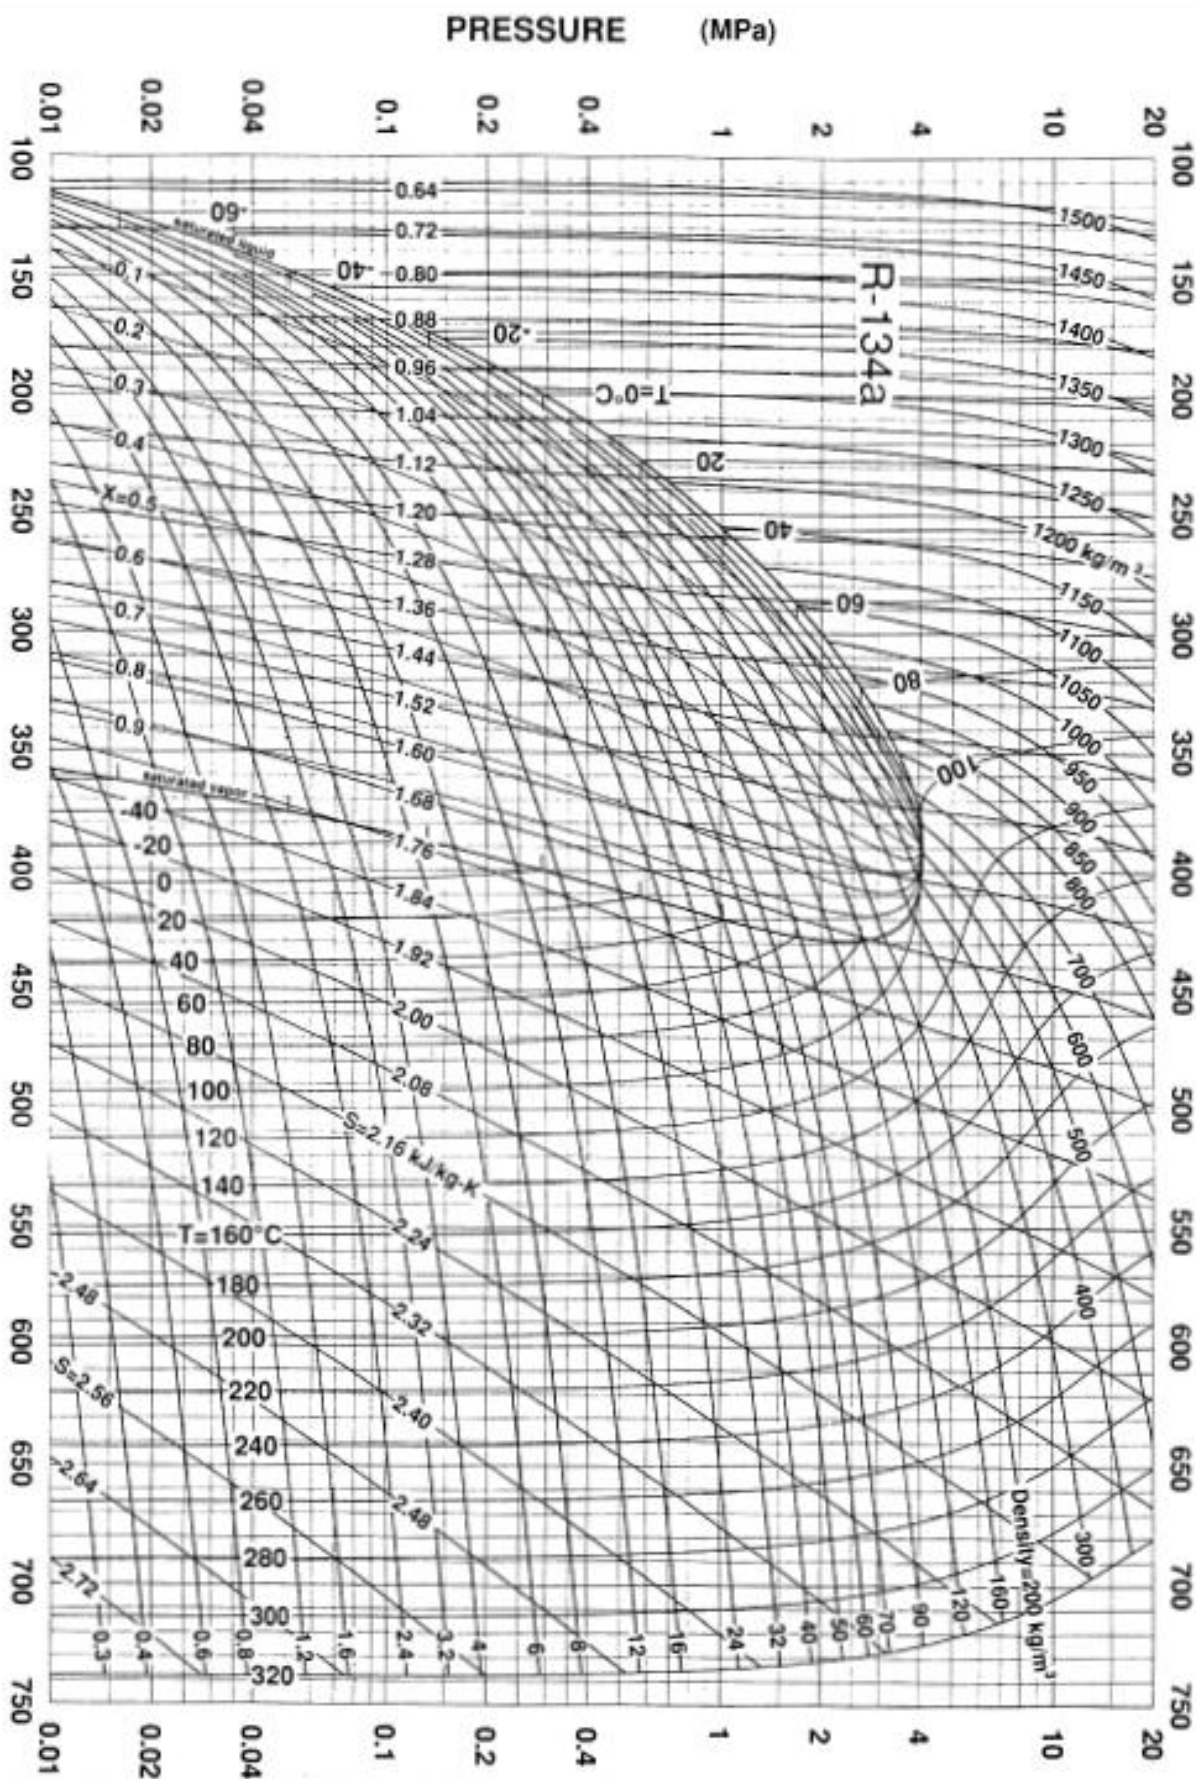

Figure 5. Pressure-Enthalpy Diagram for Refrigerant 134a
- 2.1 The following measurements were taken on a surface refrigeration plant using R134a as the working fluid. Refer to Figure 5: Pressure-Enthalpy Diagram for Refrigerant R134a to answer the questions below.